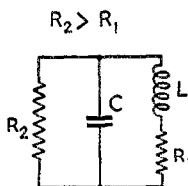
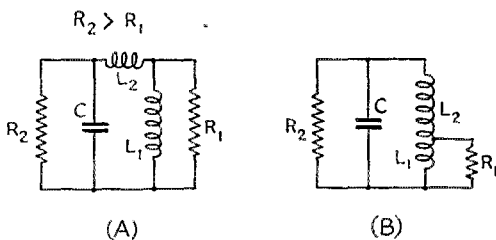

Fig. 1 — Parallel-resonant circuit with equivalent series and parallel resistances.
Fig. 2 — An impedance-matching circuit using series or tapped inductances.
The selection of these frequencies and their intended uses are what OCD calls its "Tri-Part Plan," a subdivision of the 112-116-Mc. band into various segments and a further subdivision of these segments into frequency channels 200 kc. apart (Fig. 2). Each such segment has a specific use. Nominally they are the local-district (LD) band (112-112.8 Mc.), the local-fixed (LF) band (112.8-114 Mc.), the local-mobile (LM) band (114-115.2 Mc.) and the Civil Air Patrol band (115.2-116 Mc.). We shall start at the low frequency end of the band and see what should go on in each segment according to the "Tri-Part Plan."
Fig. 2 — Allocation of channels in the 112–116-Mc. band in accordance with recommended plan. **LD Band** — Channels in this band are used for communication between control center and warning district control center. This is the supplemental circuit between a community and an outside point. **LF Band** — Channels in this band are used for communication between control center and local fixed points such as hospitals, fire stations, wardens' posts, etc. The control center coordinates the activities of the various services over these channels in the event of failure of telephone service. **LM Band** — Channels in this band are used for communication between control center and mobile units of the various services at the scene of the incident. An "up-to-the-second" picture of the progress of the incident is maintained at the control center from information received over these channels. This enables the rapid coordination of all activities and prompt dispatch of aid through the use of any band for outgoing orders from the control center. **CAP Band** — By agreement between the United States Citizens' Defense Corps and the Civil Air Patrol, these four channels have been set aside for the use of CAP to eliminate serious interference which might otherwise occur between air and ground stations.
In some cases, the impedances of an antenna and transmission line are not equal and some sort of transformation must occur before the load can be matched to the line. It is possible to convert an impedance to a higher or lower value by utilizing a circuit known as a filter, network or impedance transformer, composed only of inductances and capacitances. When a filter of suitable design is inserted between the antenna and transmission line, the load presented to the line will be equal to the line impedance, and an impedance match for a flat line is possible. A parallel-resonant circuit of inductance, capacitance and resistance, such as is shown in Fig. 1, has different impedances between various points of the circuit. The impedance between any two points can be found by combining the series and parallel elements in the usual manner. A pi-section filter will accomplish the same transformation, which is equivalent to tapping the antenna across a portion of the inductance or capacitance. These arrangements, shown in Figs. 2, 3 and 4, are not recommended since they require one more element than the circuit of Fig. 1; also, it is impossible to obtain a correct impedance transformation for certain combinations of inductance and capacitance because of insufficient coupling. The impedance transformer should exhibit pure resistance at its terminals, and Everitt² has shown what the values of the inductive and capacitive reactances should be to satisfy this condition. Equations which have been used in previous *QST* articles,^{3, 4, 5} are: